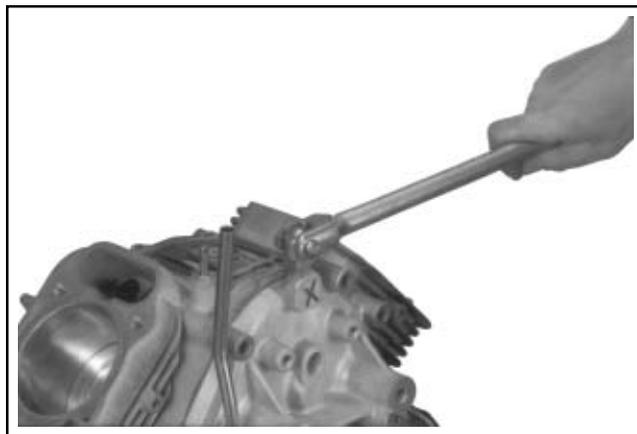

**Figure 9-61. Removing the Ten Closure Plate Fasteners.**
1. Remove the ten hex. flange screws securing the closure plate to the crankcase. See Figure 9-61.